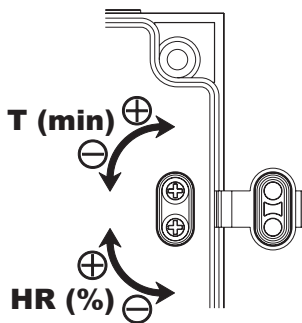

Fig.10
The desired humidity level is selected by means of a potentiometer “% Hr ” positioned on the printed circuit board (fig.10) and accessible once the grille (1) has been removed.
To set the timer, turn the potentiometer “ t min” on the printed circuit board (fig.10):